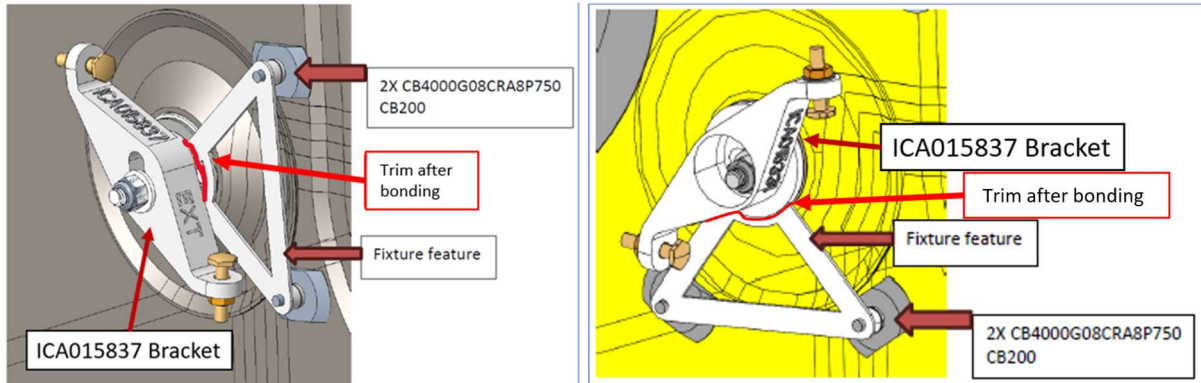

Figure 8. NLG limit switch bracket assembly installed; (1.0 configuration: orient as shown on right)
13. With rig pin still installed, or using ITL001714-B if no rig pin hole is available, bond CLICKBOND studs (CB4000G08CRA8P750) in the place oriented by the fixture (Reference **Figure 8**). Bond using CB200 in accordance with manufacturer recommendations. Backfill as needed with CB200 where stud overhangs core.
14. After allowing to adequately cure, use a razor knife to carefully trim away the fixture close to the base as shown in red line in **Figure 8**.